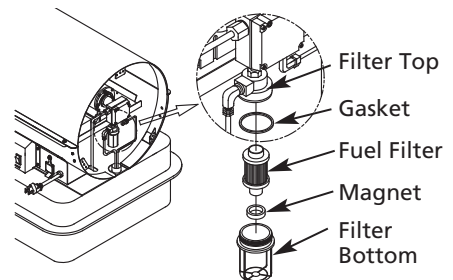

Figure 19 – Fuel Pump Filter
- Remove fuel filter, gasket, magnet from filter bottom (See Figure 19).